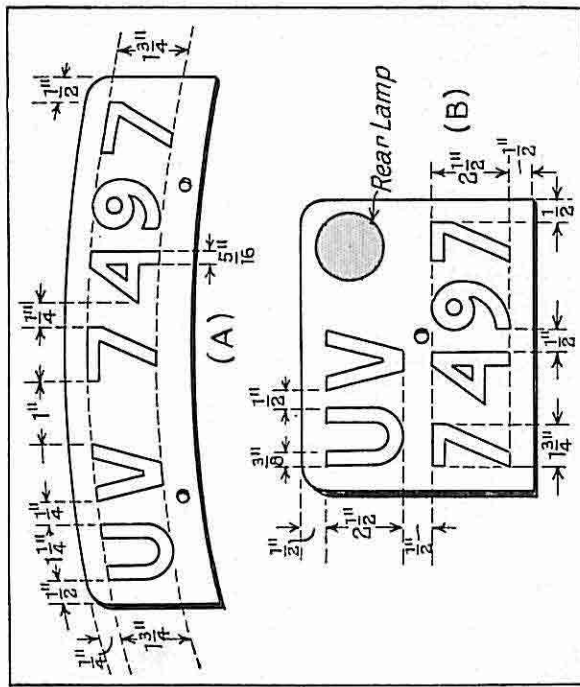

FIG. 44. NUMBER PLATE DIMENSIONS
- Number Plates.** Definite regulations are laid down concerning the size of motor-cycle number plates and their identification numbers. Up till 6th October, 1930, both number plates were permitted to be in accordance with the dimensions given at A, Fig. 44. This still holds good in respect to the *front* number plate, but as regards the rear plate new dimensions are now specified. They must be as shown at B, Fig. 44. All letters and figures must be 2½ in. high, with a total width for each letter or number of 1¼ in., except in the case of the figure 1. Every part of every letter and figure must be ⅜ in. broad. The space between adjoining